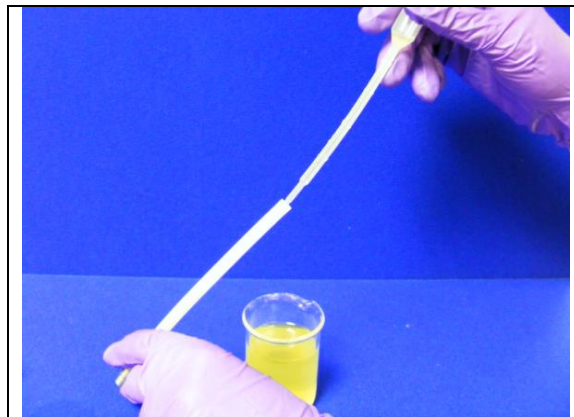

Figure 9: Adding the liquid
- 10 Dependent on whether the choice of chemical is in the aqueous or solid phase at room temperature either measure 1ml or 1g respectively and place this in the permeation source (Figure 9 shows an aqueous example)